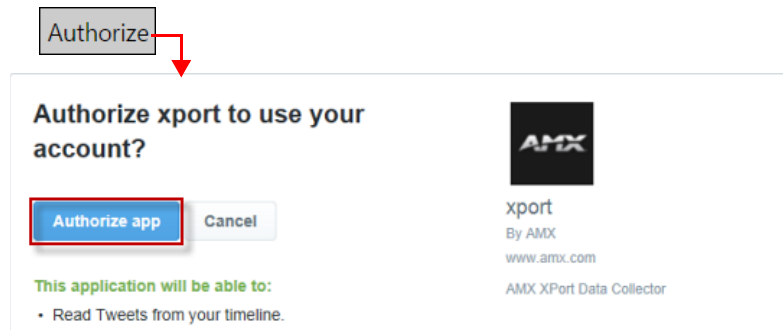

FIG. 181 Twitter.com - Authorize app page
3. Click **Authorize** to grant access to an active Twitter account via Twitter.com (FIG. 181):